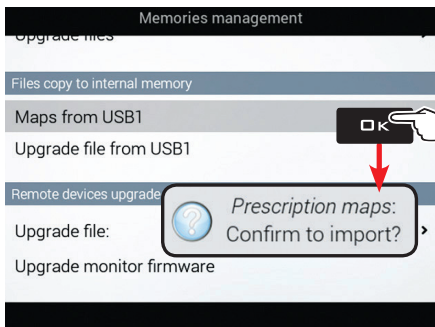

Fig. 291
- Select **Maps from USB** (Fig. 291) and press **OK**. Monitor requests you to confirm import